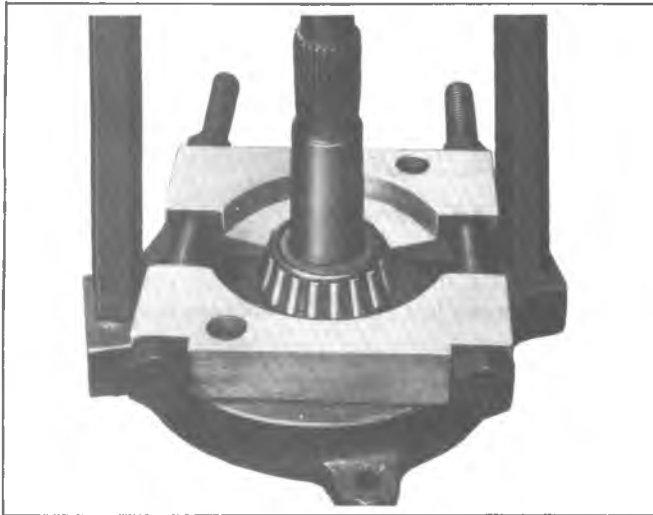

Fig. 18F—Removing Inner Pinion Bearing Cone and Roller
6. Remove inner pinion cone and roller using Tool J-22912, installed as shown in Figure 18F, and press pinion from bearing.